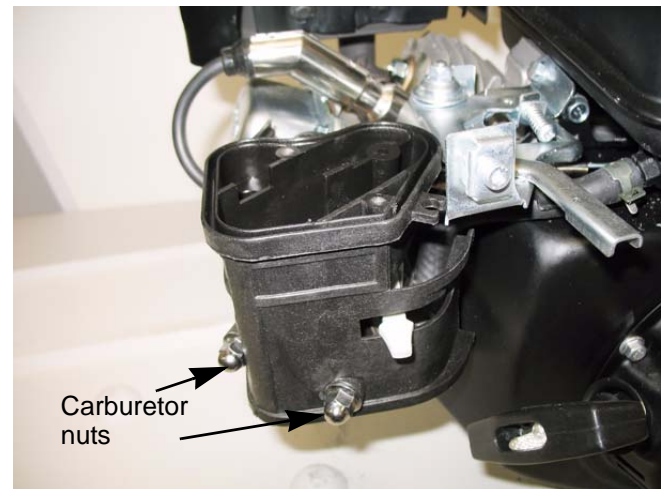

Figure 3.13
4. Remove the two carburetor nuts using a 10 mm wrench. See Figure 3.13.